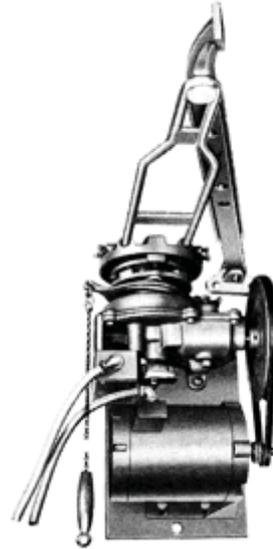

Figure 1.
(1) **GENERAL:** The Heavy Duty Operator is built into a compact unit consisting of an instantly reversing motor, a precision made speed reduction mechanism with V-belt and pulleys, a safety friction disc clutch, an emergency release, a fully automatic double acting limit switch, a heavy duty crank and connecting arm assembly, and a weather resistant cover (Figure 1). The Extra Heavy Duty Operator is similar but without the V-belt and pulleys.